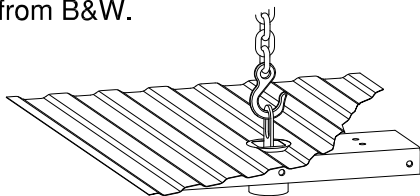

FIGURE A1
4. Prepare a lifting device (optional). The purpose of the device is to safely hold the hitch in position during part of the installation. See figure A1 for an example. A simple mechanical lifting device is available for purchase from B&W.